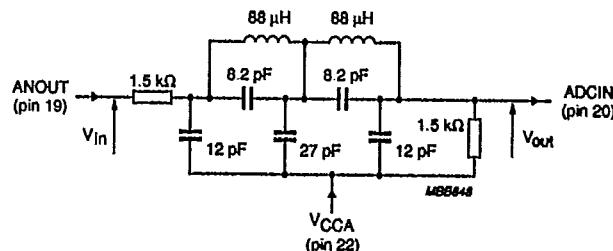

Fig.12 Example of lowpass filter for Y and C signals.
- (1) It is recommended to decouple  $V_{CCA}$  through a  $22 \Omega$  resistor especially when the output data of TDA8709 interfaces with a capacitive CMOS load device.
- (2) See Figs 12 and 13 for filter examples.
## Note to figures 12 and 13